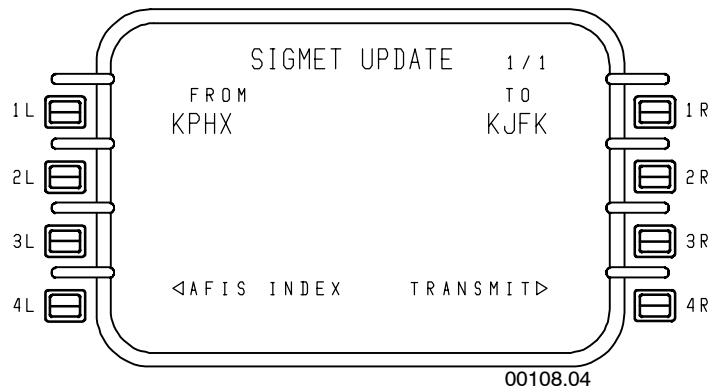

Figure 6-58
- **SIGMETS UPDATE 1/1** – Figure 6-58 prompts the pilot for the end points of the route for which a SIGMET update is required. On this page, the origin and destination of the route can be entered. The defaults are the current origin and destination from the flight plan. Selecting the TRANSMIT prompt activates a request for a SIGMET update.